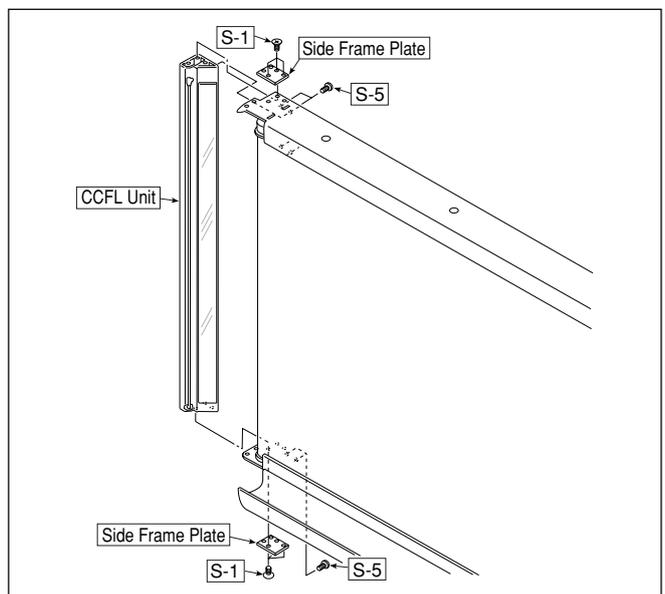

Fig. 6
### 6) Remove the CCFL Unit. (See Figure 6.)
2. Remove the "S-1" screw shown in Figure 6 and then remove the Side Frame Plate. (Tightening torque: 10.0kgfcm)
3. Remove the "S-5" screw shown in Figure 6 and then remove the CCFL Unit. (Tightening torque: 4.5kgfcm)